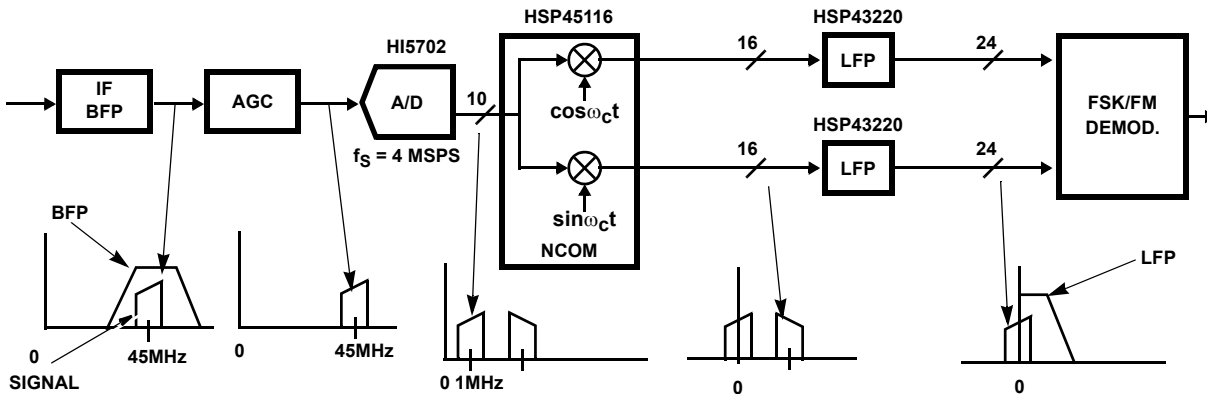
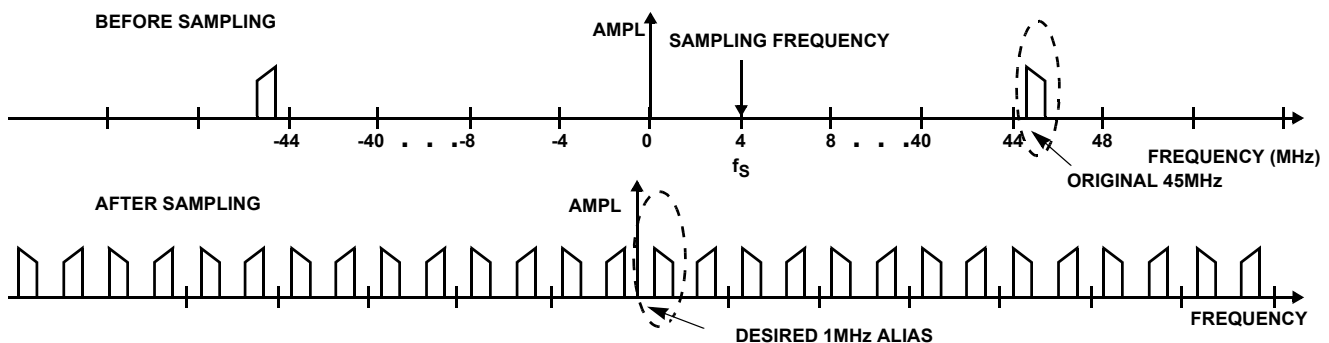

FIGURE 2. DIGITAL IF BASEBAND DOWNCONVERSION BLOCK DIAGRAM
FIGURE 3. UNDERSAMPLING FREQUENCY PLAN
This design is based on the Intersil HI5702 A/D for the IF sampling, the Intersil HSP45116 numerically controlled oscillator/modulator (NCOM) to perform the multiplication of the A/D samples with the complex phasor  $[\cos\omega_c t - j\sin\omega_c t]$ , followed by the Intersil decimating digital filters HSP43220 that generate the low rate filtered baseband data. The down conversion and filtering operations are followed with a digital FSK/FM demodulator that processes the baseband in phase (I) and quadrature (Q) data as it is being output from the digital low pass filters (HSP43220). The digital demodulator can be a simple discriminator implementation based on delay and multiply calculations on the I and Q channels. Figure 2 illustrates this general purpose digital IF design. The Block Diagram includes an optional AGC circuit. The utility of this AGC circuit is explained later in this paper.
The Diagram on Figure 2 shows this basic approach which uses subsampling to convert the 45MHz IF to a 1MHz IF. This assumes that the track and hold is integrated with the A/D as is the case with the HI5702. The Frequency Spectrum Diagrams in Figure 2 show the basic signal processing flow in subsampling. The input signal is first filtered using an analog IF bandpass filter and then amplified by an ACG amplifier to a level sufficient to drive the A/D converter. It is then sampled by the high speed track and hold, and quantized by a 4MHz rate clock at the A/D converter. The sampling process creates a spectrum that repeats the original spectrum every multiple of the sampling frequency as shown in Figure 3. The negative part of the spectrum is shown folded back on and interleaved with the positive part.
centered at 1MHz. This signal is later going to be processed by the NCOM, as shown in Figure 2, to shift it and center it at DC where it can be digitally filtered. The sampling rate, as well as the bit resolution of the A/D are chosen based on the following considerations: